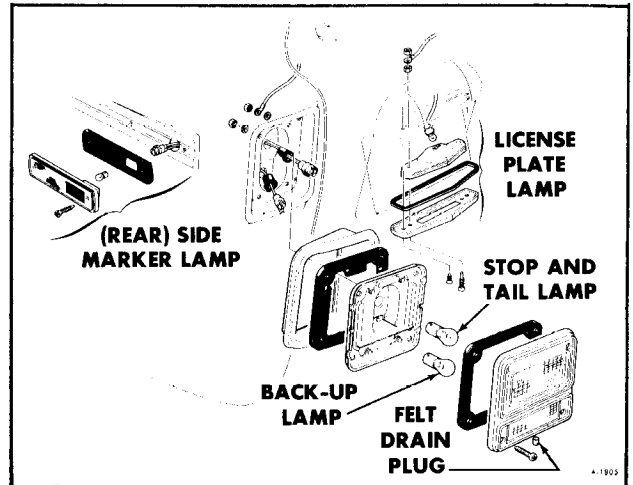

Figure 27—Tail, Stop, License and Rear Side Marker Lamps
### TAIL, STOP, BACK-UP AND DIRECTIONAL SIGNAL BULB REPLACEMENT (FIGURE 27)
1. Remove (4) lens retaining screws and remove defective bulb.
**NOTE:** Check for proper positioning of lamp assembly felt drain plug (See figure 27).
### LICENSE PLATE BULB REPLACEMENT (FIGURE 27)